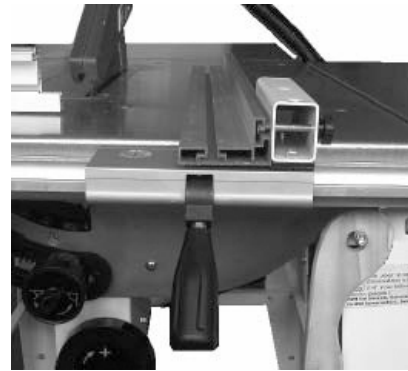

Fig. 18
-The cutting of small workpieces (width less than 120 mm) and tilted cuts shall only be performed with the rip fence profile placed flat (Fig 18).